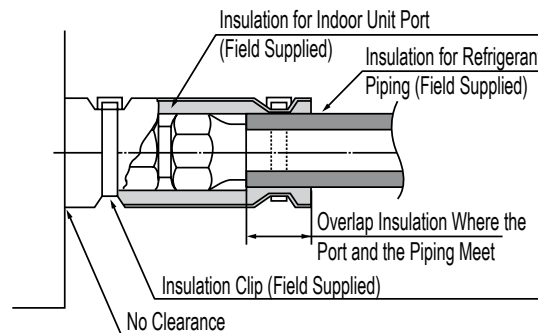

Figure 15: Typical Refrigerant Line Joint Insulation Detail
- Glue all insulation joints (see Figure 15).